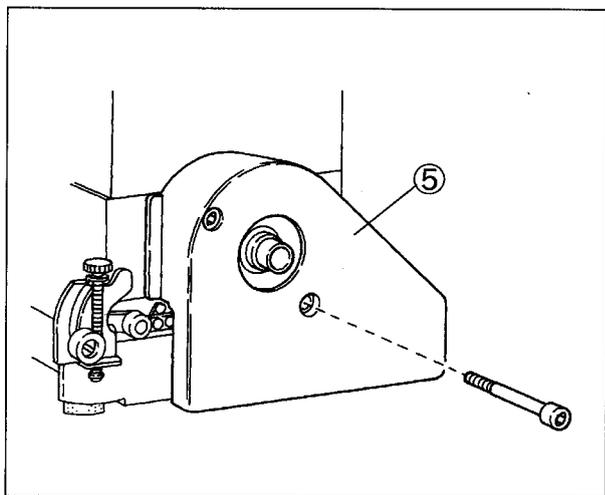
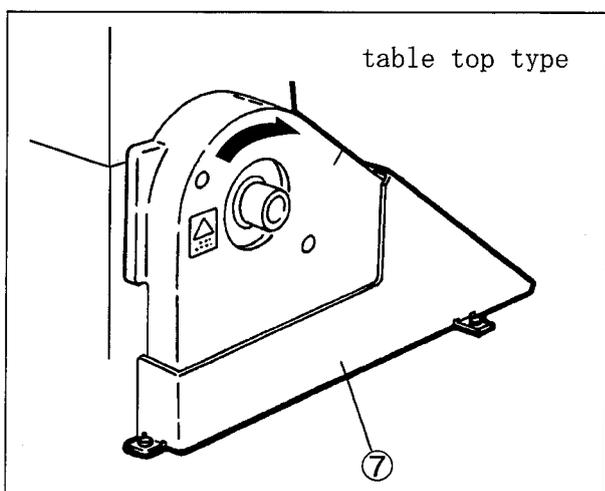

Fig. 12
Fig. 14
- (1) Install the belt cover ⑤. (Fig. 12)
- (2) Push the belt cover support ⑥ to the belt cover ⑤ to install it.
- (3) Fix the belt cover (lower) ⑦ on the machine table only for table top type. (Fig. 14)